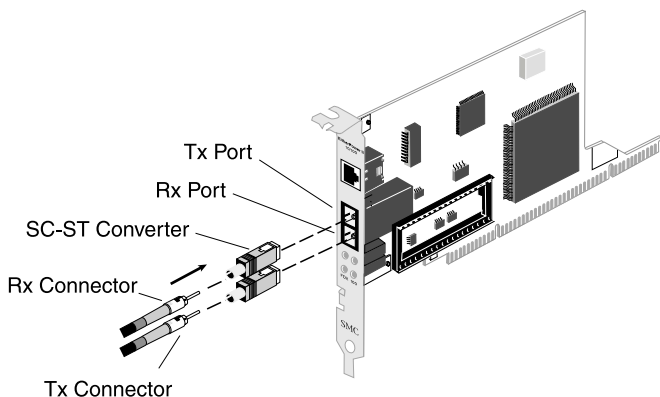

Figure 2-5. Connecting ST Fiber Cable
2. Connect the cable's "Rx" connector to the network card's "Tx" port, and the cable's "Tx" connector to the card's "Rx" port (see Figure 2-5).